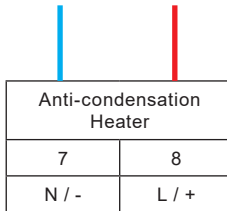

Fig. 23 Anti-Condensation Heater Terminal Diagram
- Connect the wires as indicated in Figure 23 Anti-Condensation Heater Terminal Diagram and cable tie the wiring harness carefully as indicated
- Connect the wires as indicated in Figure 23 Anti-Condensation Heater Wiring Diagram